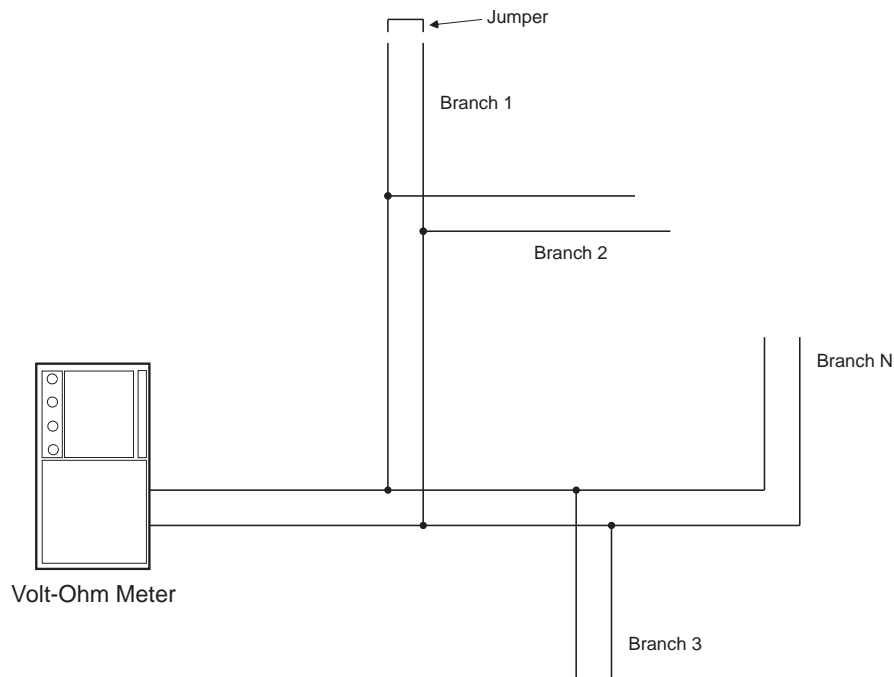

Figure 2-10. Measuring Class B SLC Wiring Resistance
1. Short the ends of each branch line one at a time. Measure the resistance from the terminating points at the control unit to the end of the branch line. See Figure 2-10.